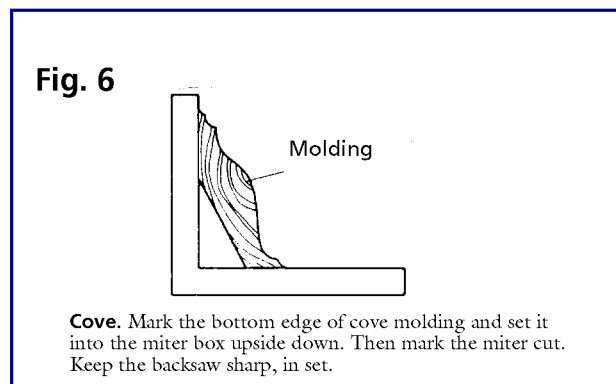

Fig. 6
**Cove Cutting.** The procedure for cutting cove molding (Fig. 6) is essentially the same as for baseboard, except that the molding should be set in the box upside down so it can be seated firmly against the bottom and the back.